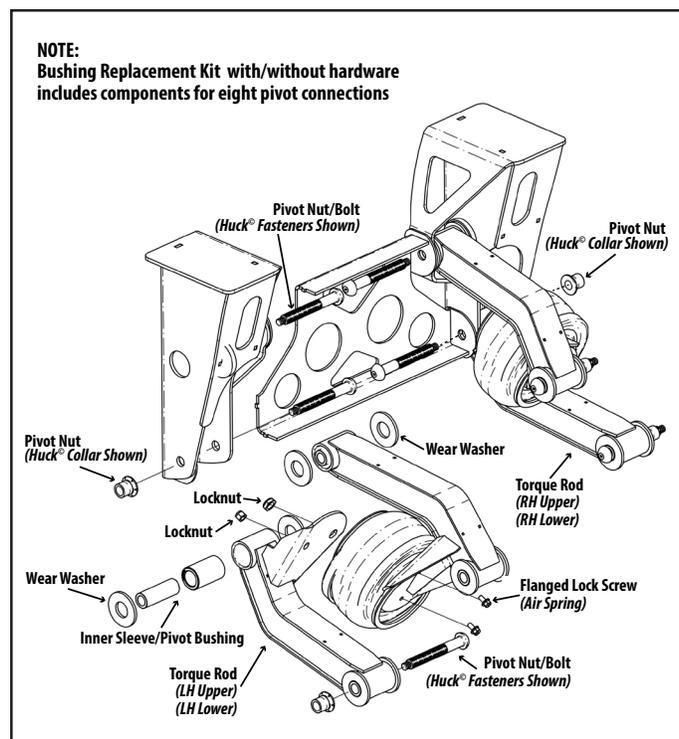

Figure 2.
- Assemble the pivot connection with one wear washer on each side of the bushing (Figure 2). The inner sleeve of the bushing must be flush with or extend slightly past the outside of the wear washers after assembly.